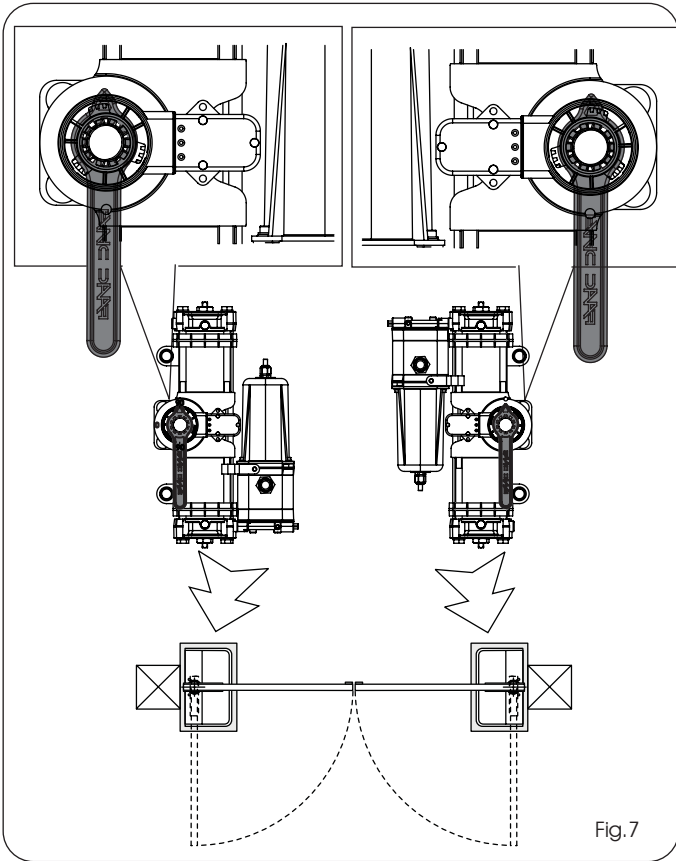

Fig.7
7) Turn the operator pinion with the supplied wrench until it points to the open position (90° from close) and then remove the wrench (see Fig. 7)